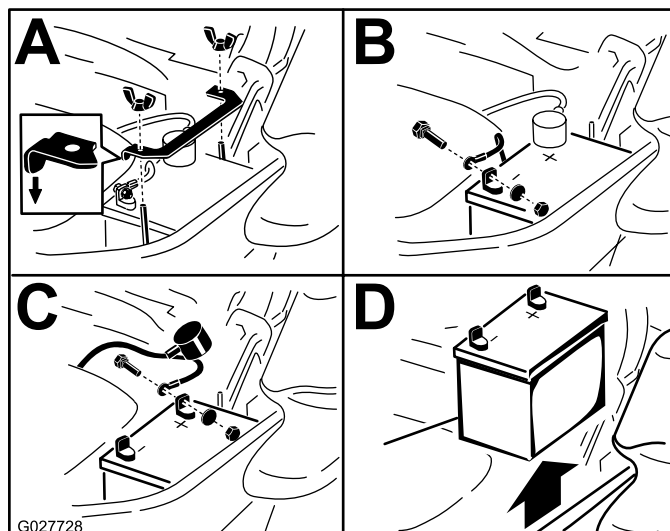

Figure 56
3. First disconnect the negative battery cable (black) from the negative (-)(black) battery terminal (Figure 56).
4. Slide the red terminal boot off the positive (red) battery terminal and remove the positive (+)(red) battery cable (Figure 56).
5. Remove the wing nut securing the battery clamp (Figure 56).
6. Remove the clamp (Figure 56).
1. Position battery in the tray with the terminal posts opposite from the hydraulic tank (Figure 56).
4. Secure the cables with 2 bolts, 2 washers, and 2 locknuts (Figure 56).
6. Install the clamp and secure it with the wing nut (Figure 56).